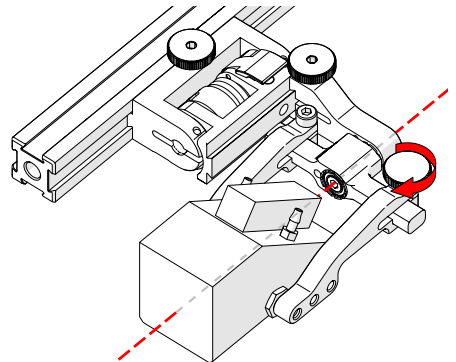

Fig. 50 - Pinch wedge with arm
- Tighten the probe holder arm adjustment knob (Fig. 50).